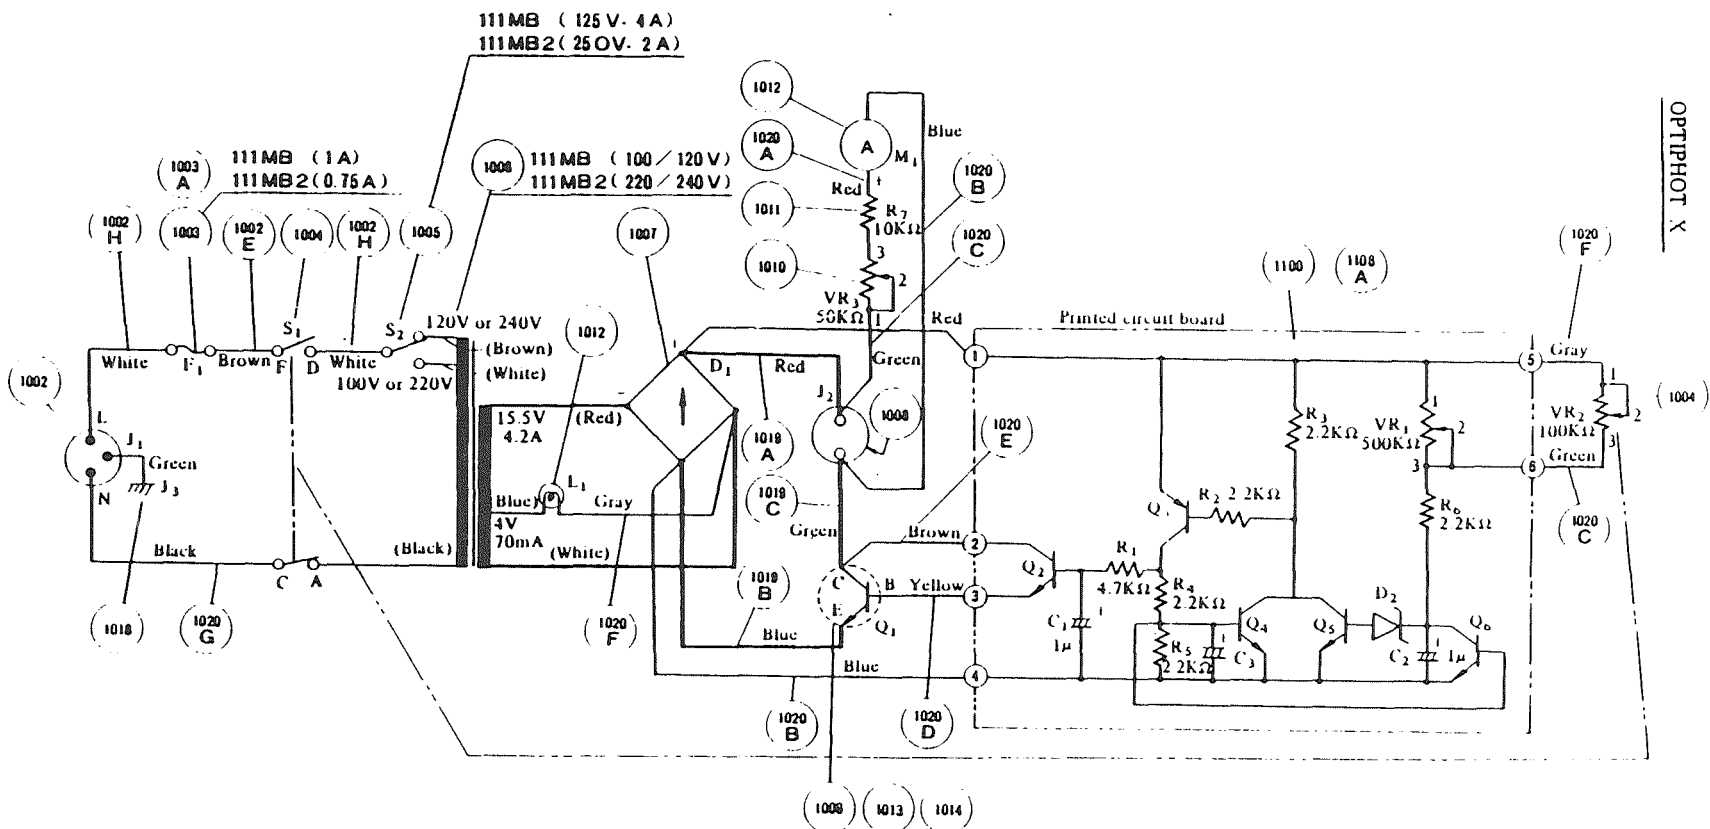

Fig. 51
8. Adjustment of Brightness Control Circuit (Fig. 51, 52)